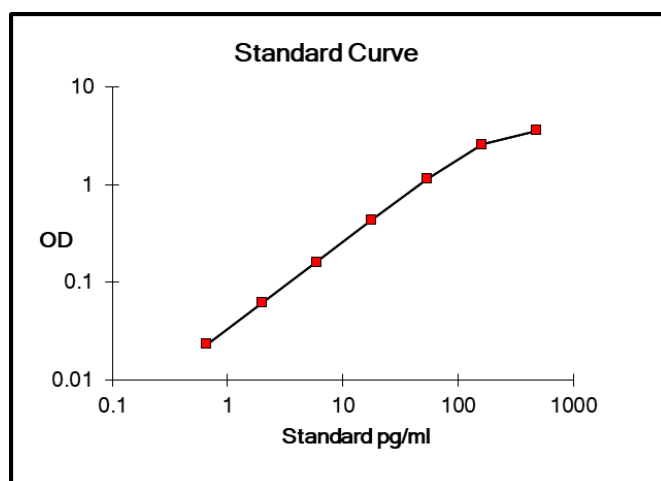

Figure 9 Representative standard curve for Human Granzyme B ELISA Kit. Human granzyme B was diluted in serial 3-fold steps in dilution buffer.
- A representative standard curve is shown in Figure 9.